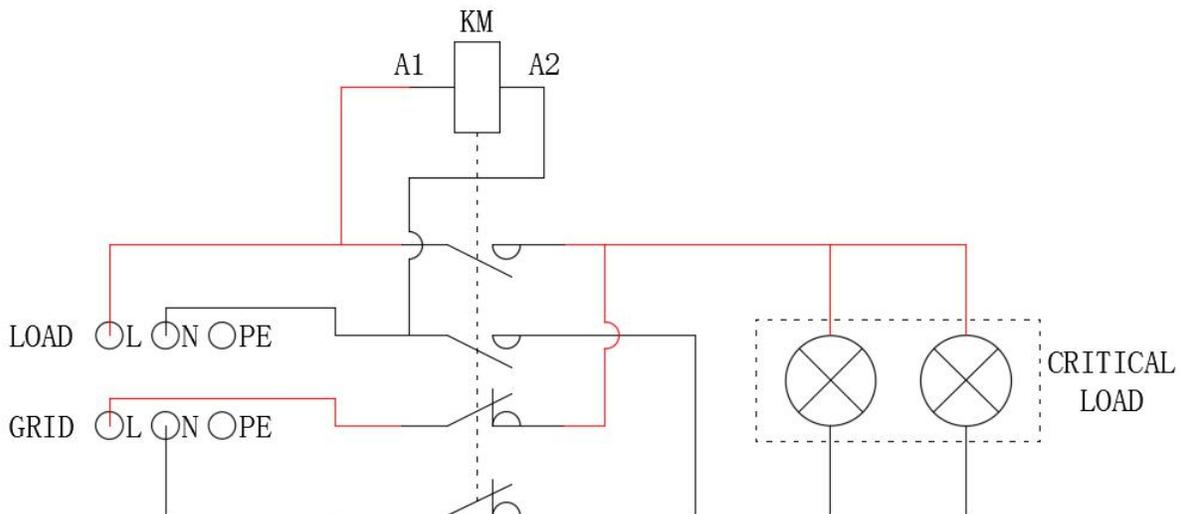

Fig. 10 Connection of critical load (AC contactor: 2 NC, 2 NO)
6. AC contactor is correctly connected (fig. 10)